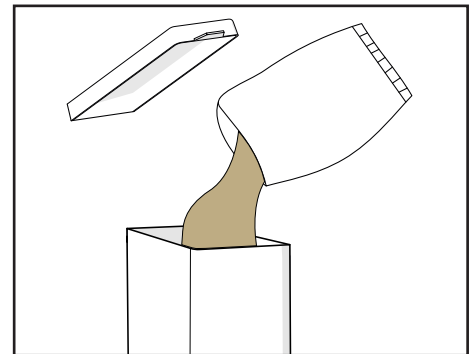

Figure 51.
4. Remove the lid from the canister. Fill the canister to a maximum of three quarters of its capacity (see Figure 51).